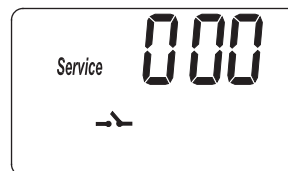
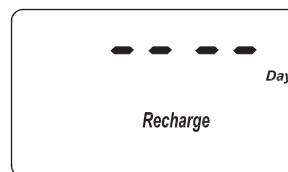
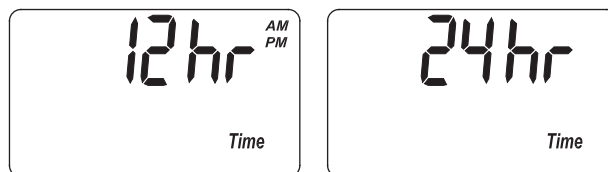

FIG. 30
FIG. 31
FIG. 32
1. Press and hold the PROGRAM button until the screen in Figure 30 is displayed. Once in this display, press the PROGRAM button four times and the display in Figure 31 is shown.
1. Press and hold the PROGRAM button until the screen in Figure 30 is displayed. Once in this display, press the PROGRAM button five times and one of the two displays in Figure 32 is shown.